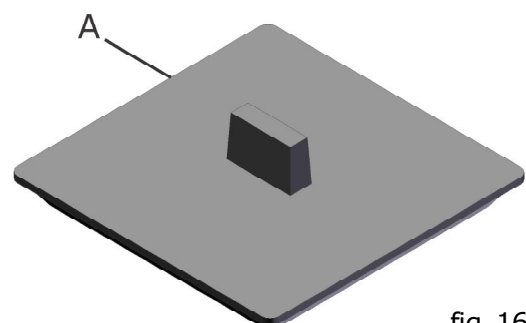

fig. 16
For the corn crop, on lines where the fertilizer metering with endless thread are not being used, place the fertilizer blockings (A) (fig. 16).